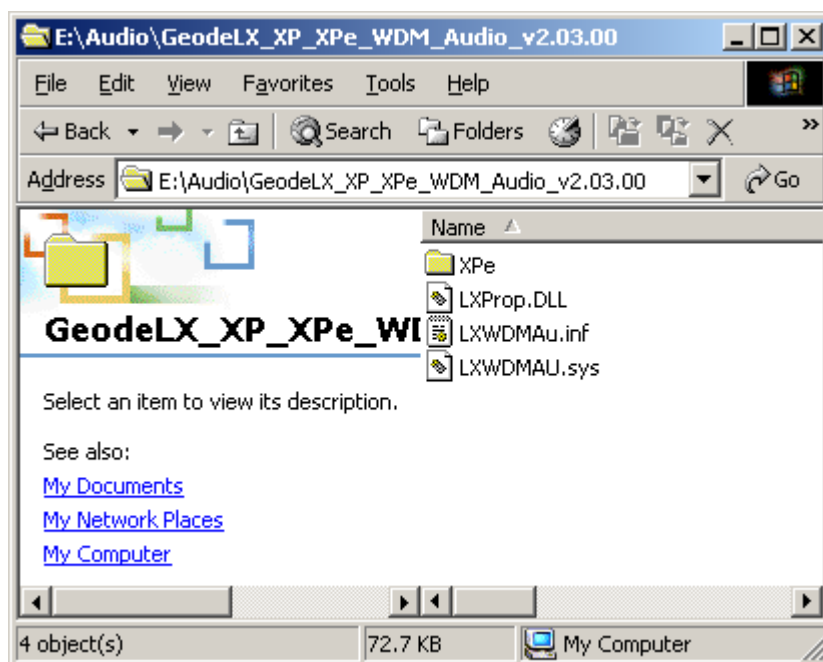

Figure 6-19: Location Browsing Window
Step 8: Select "X:\Audio\GeodeLX_XP_XPe_WDM_Audio_v2.03.00" directory in the location browsing window, where "X:\\" is the system CD drive (**Figure 6-19**).